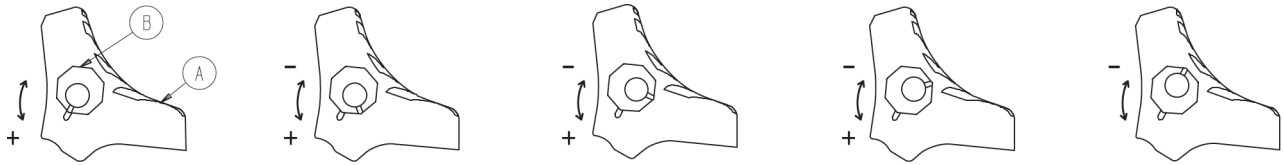

Figure 9: Wheel locking force adjustment
1. Using the 5/32" hex wrench and 7/16" combination wrench or socket, remove the socket screw from the center of the lock pedal. The wheel lock is initially assembled with the pedal set at the minimum locking force. The marker on the pedal (A) is aligned with the marker on the octagonal sleeve (B) (Figure 9 on page 41).
2. Remove the sleeve (B). Rotate the sleeve counterclockwise to increase the pedal locking force and clockwise to decrease the locking force. Insert the sleeve into the pedal (Figure 9 on page 41).